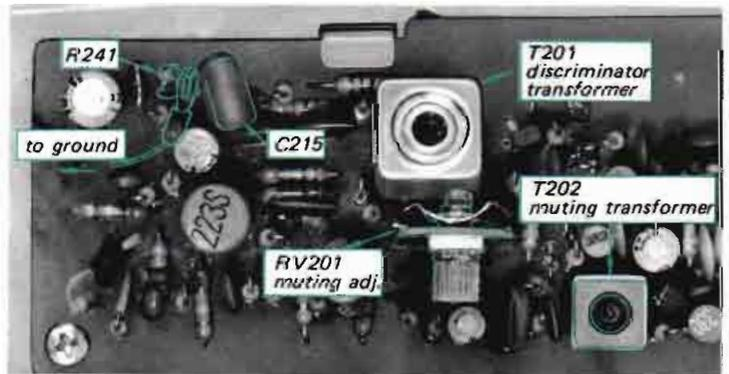
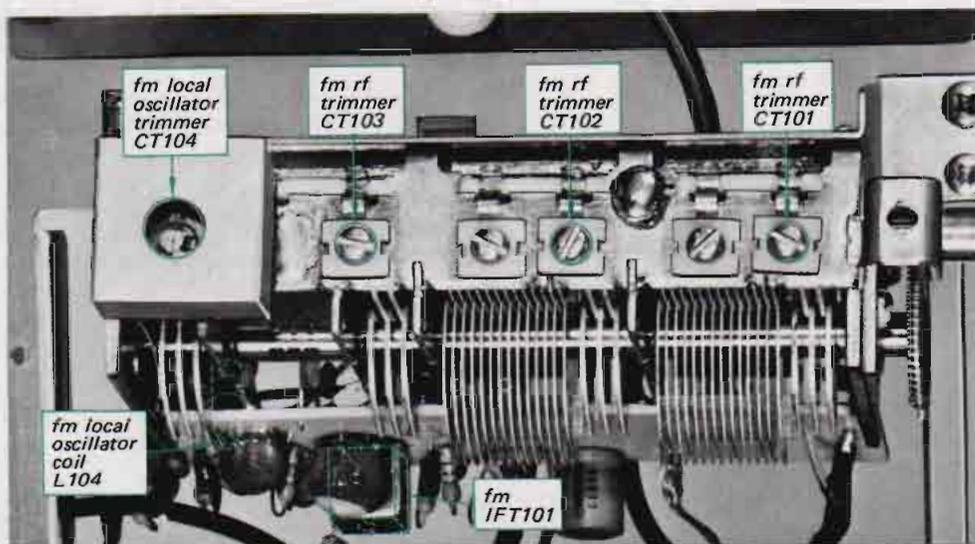

Fig. 3-2. Interruption of afc circuit and parts location
Fig. 3-4. Parts location
5. Short the connection point of R242 and C215 (AFC circuit) to ground as shown in Fig. 3-2.
3. Turn the core of transformer IFT101 or T201 (bottom core) (see Fig. 3-2 or Fig. 3-4) with the alignment tool to obtain maximum output.
3. Short the connection point of R242 and C215 (AFC circuit) to ground as shown in Fig. 3-2.
3. Turn the top core (secondary side) of discriminator transformer T201 (see Fig. 3-2) with a hex-head alignment tool to obtain a null-point reading on the tuning meter. If the discriminator transformer (T201) is not aligned correctly, some deviation on the tuning meter will be observed.
- Turn the knob of RV201 (see Fig. 3-2) fully clockwise on the fm i-f and discriminator board.
- Short the connection point of R242 and C215 (AFC circuit) to ground as shown in Fig. 3-2.